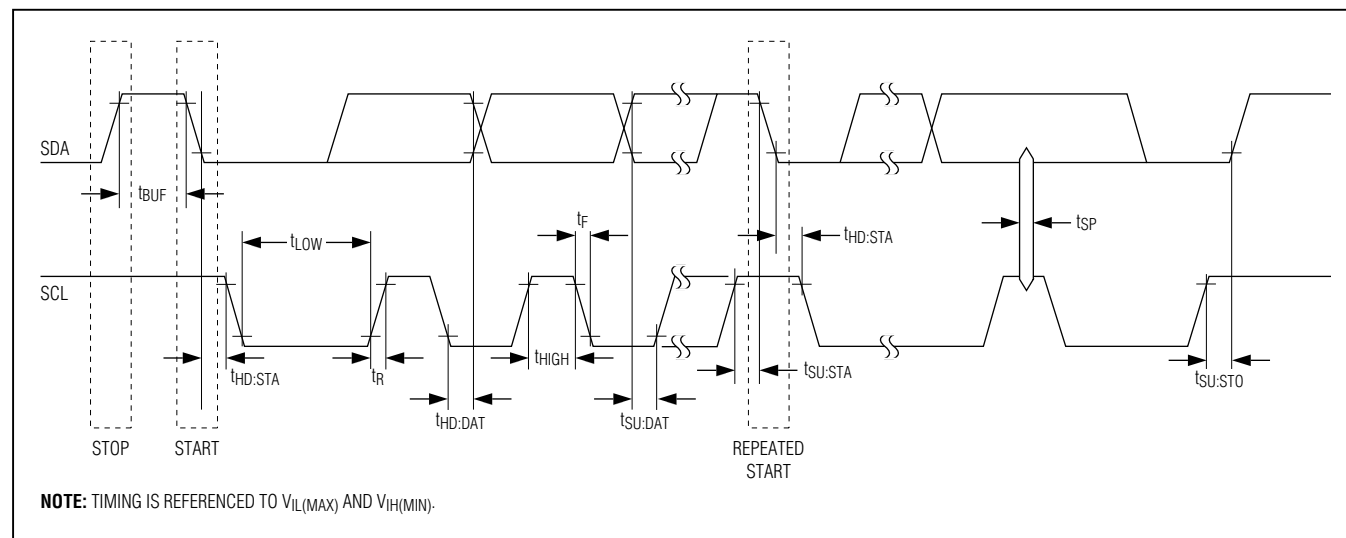

Figure 5. 2-Wire Timing Diagram
**START Condition:** A START condition is generated by the master to initiate a new data transfer with a slave. Transitioning SDA from high to low, while SCL remains high, generates a START condition. See Figure 5 for applicable timing.
**STOP Condition:** A STOP condition is generated by the master to end a data transfer with a slave. Transitioning SDA from low to high, while SCL remains high, generates a STOP condition. See Figure 5 for applicable timing.
**Repeated START Condition:** The master can use a repeated START condition at the end of one data transfer to indicate that it will immediately initiate a new data transfer following the current one. Repeated STARTs are commonly used during read operations to identify a specific register address to begin a data transfer. A repeated START condition is issued identically to a normal START condition. See Figure 5 for applicable timing.
**Bit Write:** Transitions of SDA must occur during the low state of SCL. The data on SDA must remain valid and unchanged during the entire high pulse of SCL plus the setup and hold time requirements (Figure 5). Data is shifted into the device during the rising edge of the SCL.
**Acknowledgement (ACK and NACK):** An acknowledgement (ACK) or not-acknowledge (NACK) is always the 9th bit transmitted during a byte transfer. The device receiving data (the master during a read or the slave during a write operation) performs an ACK by transmitting a zero during the 9th bit. A device performs a NACK by transmitting a one during the 9th bit. Timing for the ACK and NACK is identical to all other bit writes (Figure 5). An ACK is the acknowledgment that the device is properly receiving data. A NACK is used to terminate a read sequence or as an indication that the device is not receiving data.